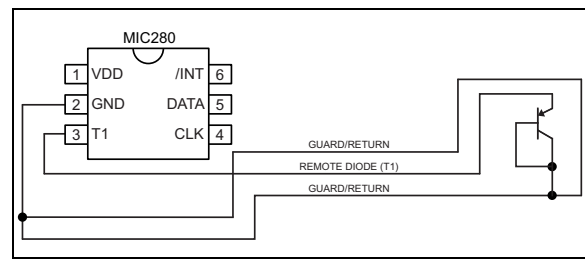

FIGURE 6-1: Guard Traces/Kelvin Ground Returns.
2. Because any conductance from the various voltages on the PC board and the T1 line can induce serious errors, it is good practice to guard the remote diode's emitter trace with a pair of ground traces. These ground traces should be returned to the MIC280's own ground pin. They should not be grounded at any other part of their run. However, it is highly desirable to use these guard traces to carry the diode's own ground return back to the ground pin of the MIC280, thereby providing a Kelvin connection for the base of the diode. See Figure 6-1.
3. When using the MIC280 to sense the temperature of a processor or other device which has an integral thermal diode, e.g., Intel's Pentium II, III, IV, AMD Athlon CPU, Xilinx Virtex FPGAs, connect the emitter and base of the remote sensor to the MIC280 using the guard traces and Kelvin return shown in Figure 6-1. The collector of the remote diode is typically inaccessible to the user on these devices. To allow for this, the MIC280 has superb rejection of noise appearing from collector to GND.